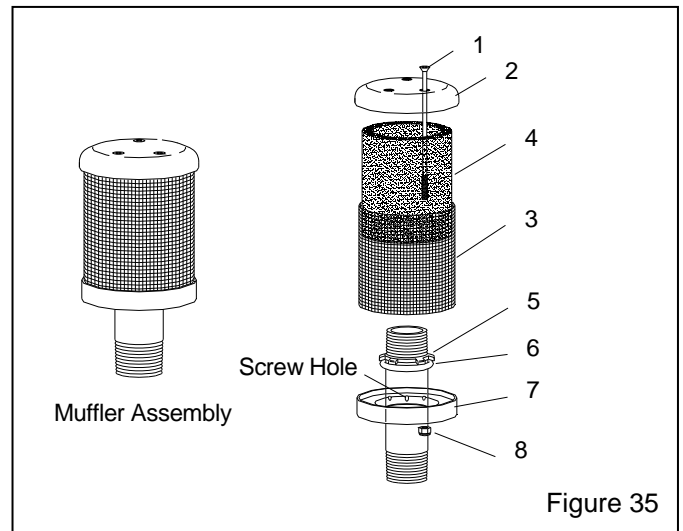

Figure 35
10.5 Muffler Assembly – Figure 35